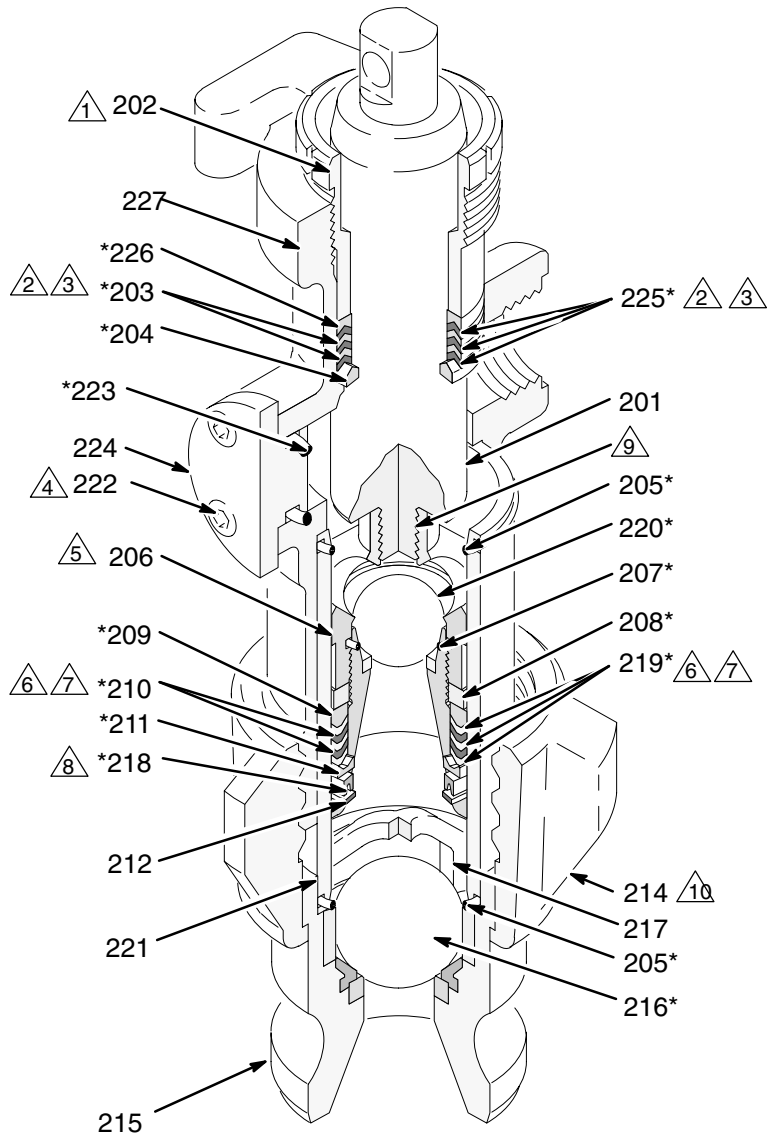

Fig. 14
2. Use a hammer on the tabs of the lug nut (214) to loosen the foot valve housing.
3. Disassemble the pump, but do not disassemble the piston rod (201) from the piston housing (206) unless one of those parts needs to be replaced. Due to the high-strength (red) Loctite® used at the joint of these two parts, the joint must be heated before disassembly. Refer to Fig. 14.
NOTE: Refer to Fig. 14.